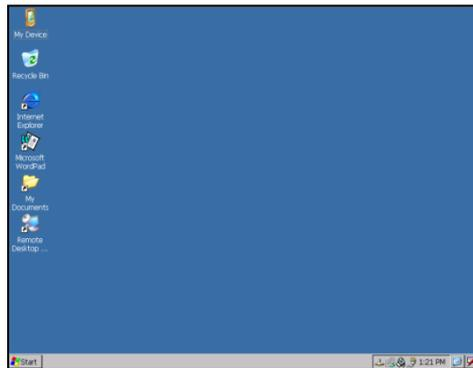

Figure 58 - Touch Screen Operating System Screen
5. Once the touch screen is on and the startup has completed, exit the SSi controller application. (Refer to the controller manual or contact SSi at (513) 772-0060 if you have questions about how to do this.) The operating system screen will appear once the controller application is shut down. It will look similar to the screen pictured in Figure 58.